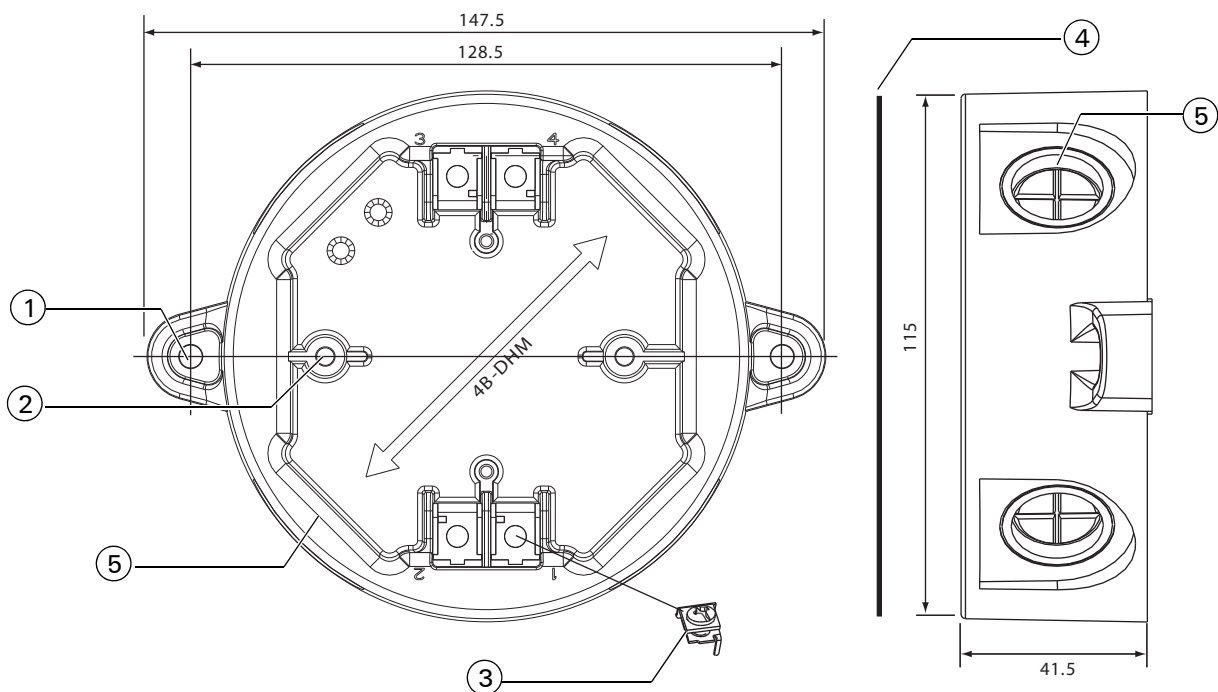

Fig. 9: 4B-DHM deckhead mounting
The Deckhead Mounting is designed to be used in particularly damp or dirty environments. The kit is illustrated in Figure 9.
- 1 Note that the item numbers in this procedure refer to Figure 9. Remove gland/conduit knockouts (Item 5) as appropriate. For the larger 25 mm diameter, a hole cutter is required.
- 4 Fix the 4B-DHM to the surface by screwing through the fixing holes – item 1 in Figure 9.
- 5 Remove the backing from the sealing gasket (Item 4 in Figure 9). Carefully stick the gasket to the front surface of the 4B-DHM. Fit the gasket round the rim, so that it will form a seal with the detector base.